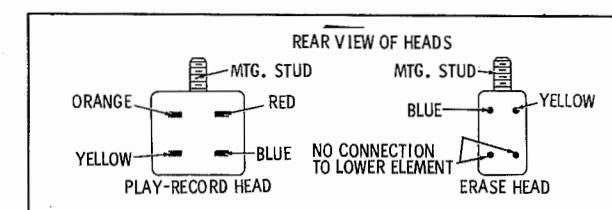

Fig. 17. Head Wire Color Coding.
1. Remove cover plate (3) and track selector knob (146).
2. Unfasten cover plate assembly (150) by removing two screws (147 and 149) and one "e" ring (148). Lift off cam shank and pin assembly (151) with cover plate assembly (150). Be careful not to lose ball (154) resting on cam adjustment lever (155).
3. Lift out upper and lower bushing plate assembly (160) in which the heads are mounted. If head cables are too tight, slide some slack through the cable clamp or remove clamp.
4. To remove record-playback head, unscrew nut (162) and pry head from mounting plate (164). Disconnect cable from head using long-nosed pliers. Note color coding of leads (Refer to Fig. 17).
5. To remove erase head, unscrew nut (158) and pry head loose from upper bushing plate (160). Disconnect wires from head connecting pins. These wire connections are crimped into the erase head pins, and therefore need to be cut in order to be removed. Note wire color coding as shown in Fig. 17. After wires are cut, strip the insulation from the ends of the wires in readiness for connecting to the replacement head.